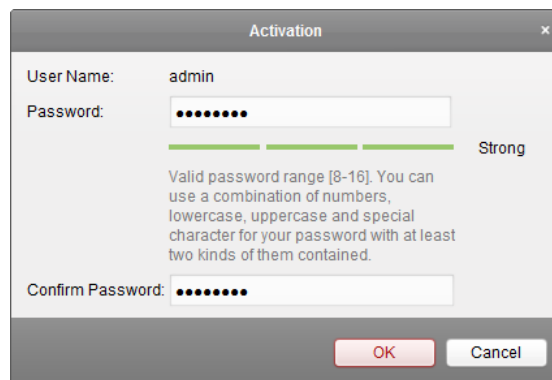

Figure 4-4 Activation Interface
5. Select the device and click **Activate** to enter the activation interface, as shown in Figure 4-4.